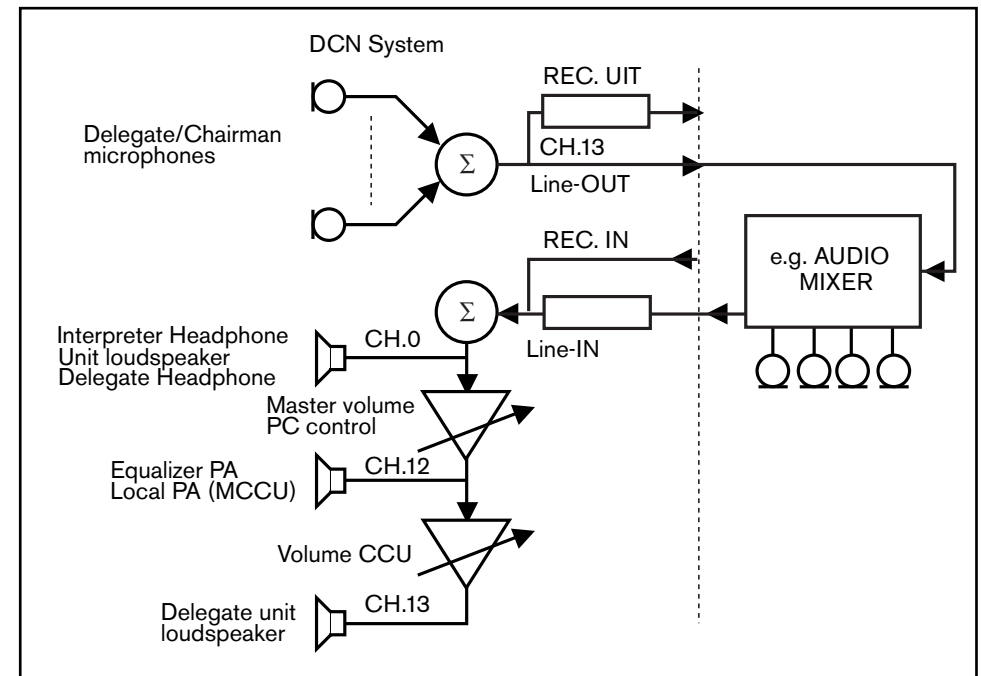

FIG 4-9 'INSERTION' mode
4.9.1 Audio Routing INSERTION mode (FIG 4-9)
FIG 4-9 shows the audio routing in the CCU and external device.